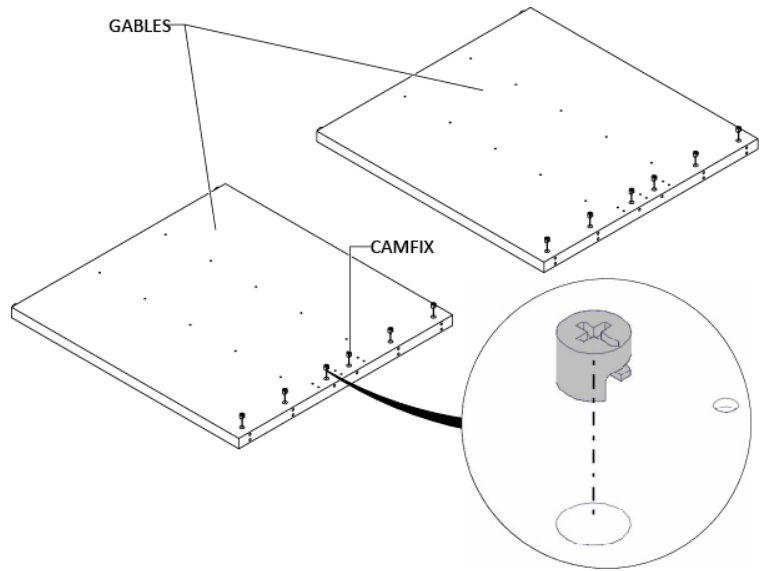

Figure 5
5. Insert the CamFix into the holes of the gables, (Figure 5).